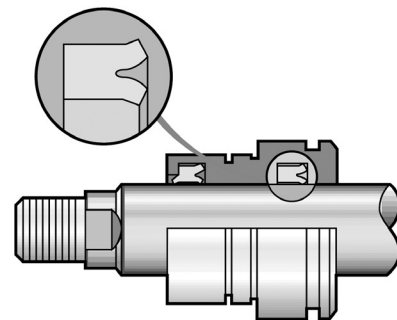

Figure 3-3
- Urethane "Ultra-Seal" standard through 5.5" rod diameters on N5 cylinders providing the optimum in long life and sealing up to 200°F (see Fig. 3-3)